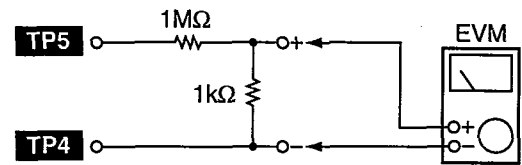

Fig. 11
1. Connect the measuring instrument as shown in Fig. 11.